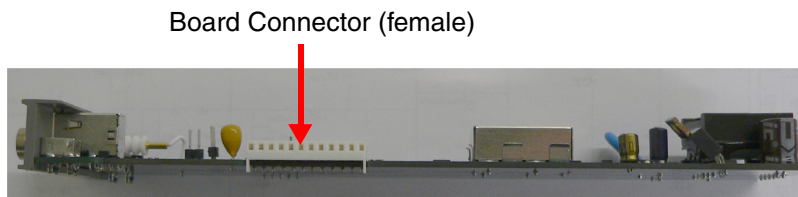

Figure 4-4 Sensor Board Connector: Bottom View
- Guide the board down as straight as possible onto the connector on the main board. Figure 4-4 shows the connector on the base of all three board types.